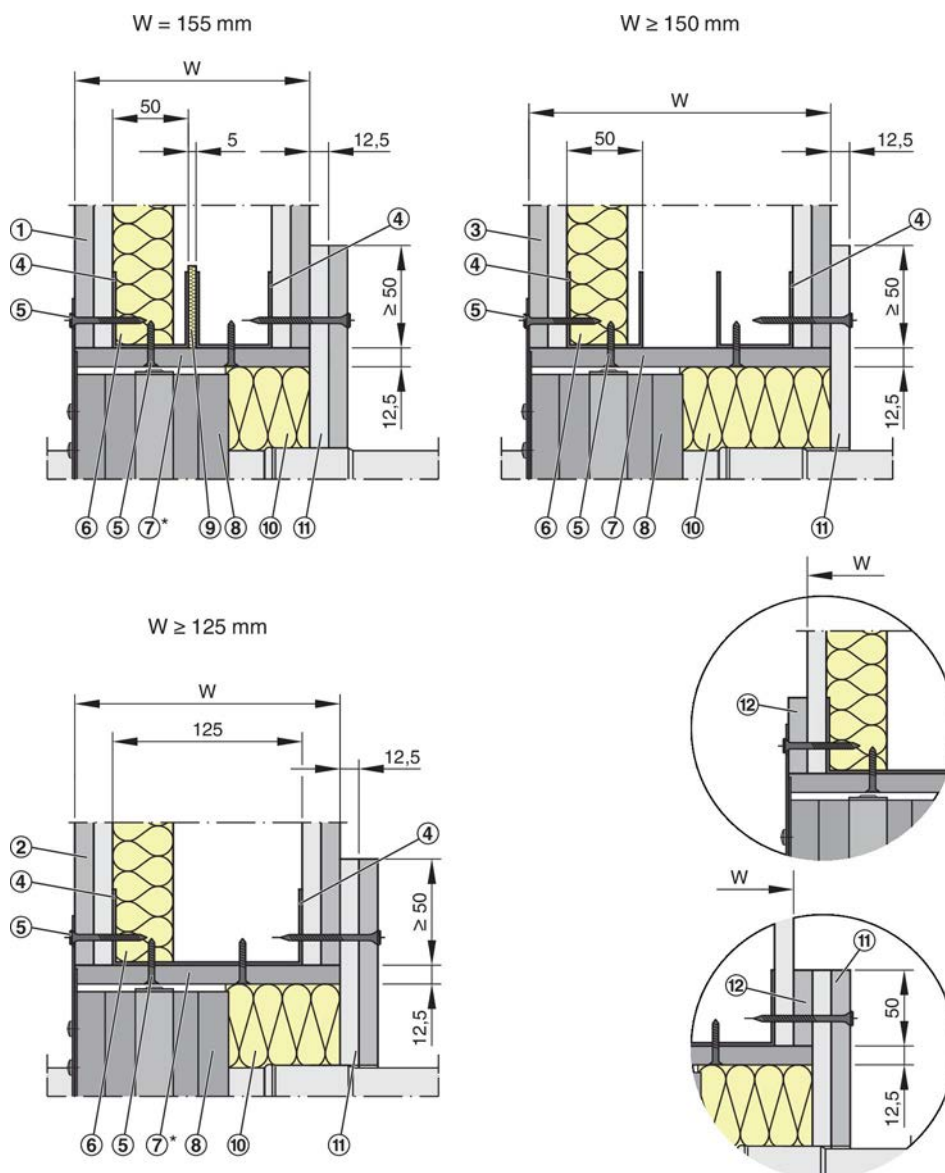

Fig. 31: Dry mortarless installation into lightweight partition walls,  $W \geq 125$  mm
For details on the installation into walls of different thickness see Fig. 31
4. ▶ If the wall thickness is  $\geq 125$  mm, fill the rear gap with mineral wool or gypsum mortar and seal it with reinforcing strips made of the same material as the wall Fig. 31.